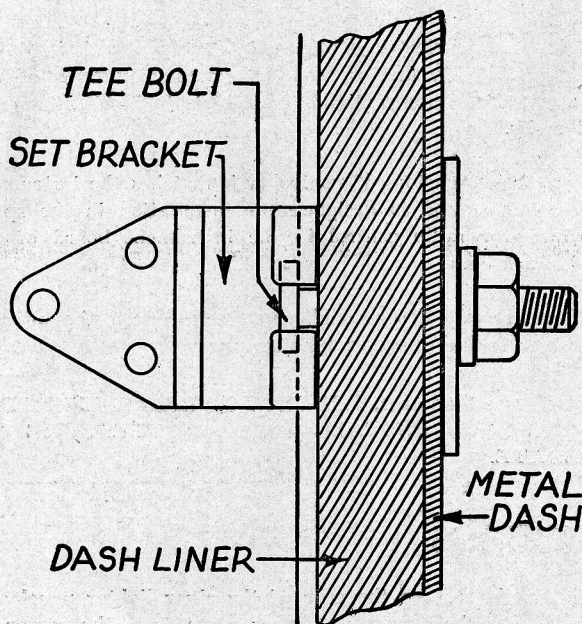

FIGURE 1
**RECEIVER**—Install the Receiver on the left side of the dash above the steering column. A cardboard template is furnished so that the mounting bolt hole locations can be easily and accurately marked on the dash. The Receiver fastens to the dash with two "Tee" bolts. (See Figure 1). Drill two  $\frac{7}{16}$ " holes and loosely assemble the "Tee" bolts. Install the Receiver on the dash, hooking the "Tee" bolts into the brackets on the Receiver. Tighten the Receiver securely in place.